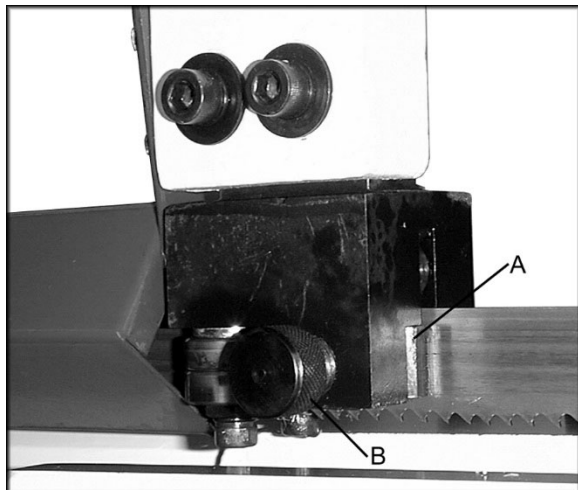

Figure 11
Refer to Figure 11.
2. Adjust spring loaded blade guide (A, Figure 11) by loosening or tightening the guide adjustment screw (B).